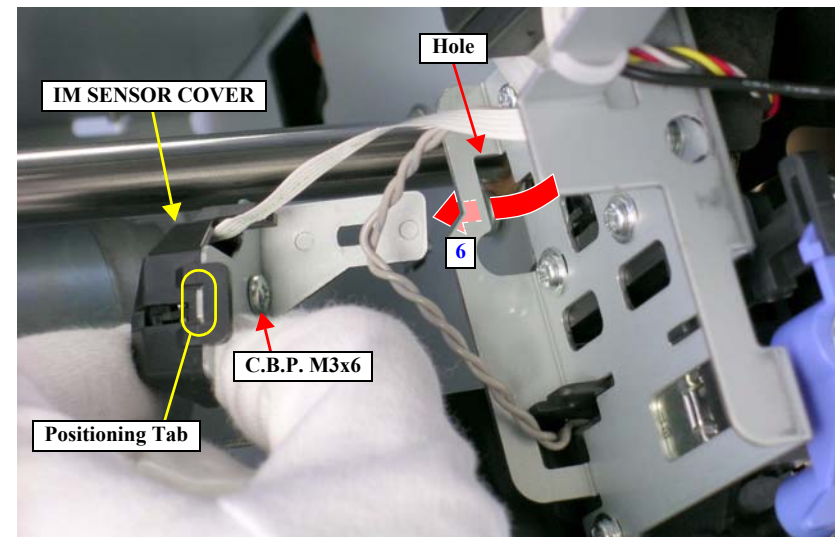

Figure 4-97. Removing the IM Sensor Holder
6. Pull the IM Sensor Holder out through the hole on the bracket. *See Figure 4-97.*
7. Remove the screw that secures the IM Sensor Holder and remove it. *See Figure 4-97.*
When reinstalling the IM Sensor Holder, make sure the positioning tab of the Holder is set in the positioning slot on the IM SENSOR COVER. *See Figure 4-97.*